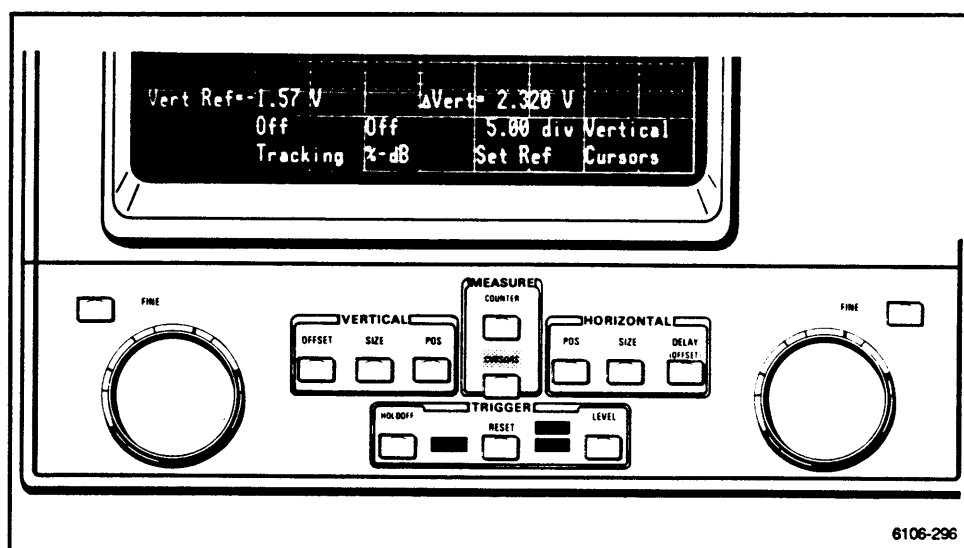

Figure 2-97. CURSORS menu after selecting vertical cursors.
4. Press the CURSOR button and select **Vertical Cursors** from the menu. Make sure that % dB and Tracking are Off. (See Fig. 2-97.)